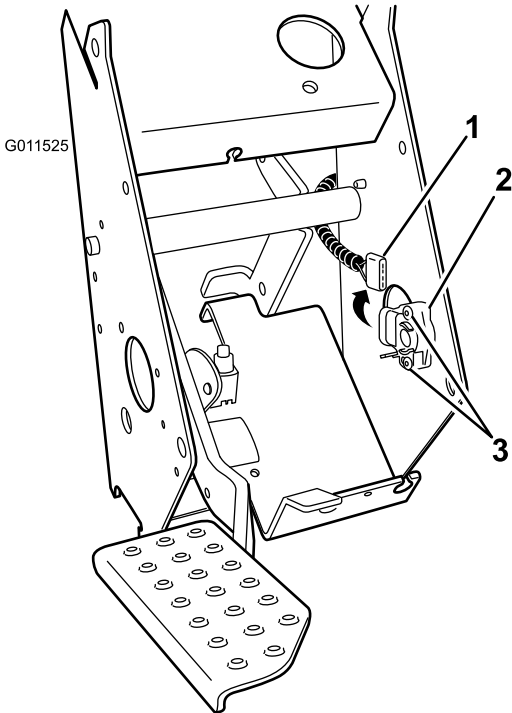

Figure 4
4. Disconnect the existing potentiometer from the main vehicle harness and drill out the rivets securing the potentiometer to the pedal box assembly (Figure 4).